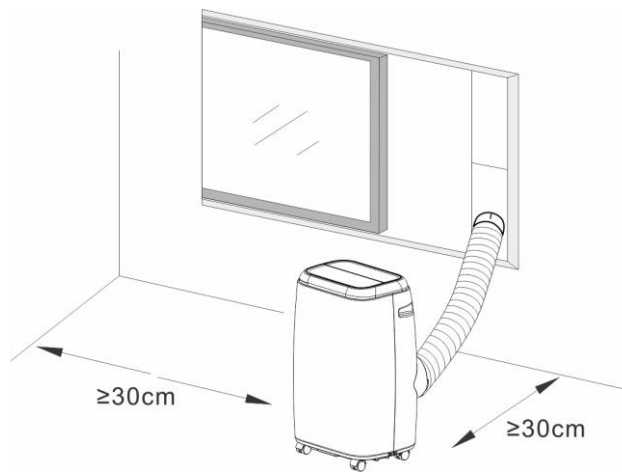

Fig.8
- A removal air-conditioner shall be installed in the flat and empty place all around. Don't block the air outlet, and the required distance around should be at least 30cm. (See Fig.8)